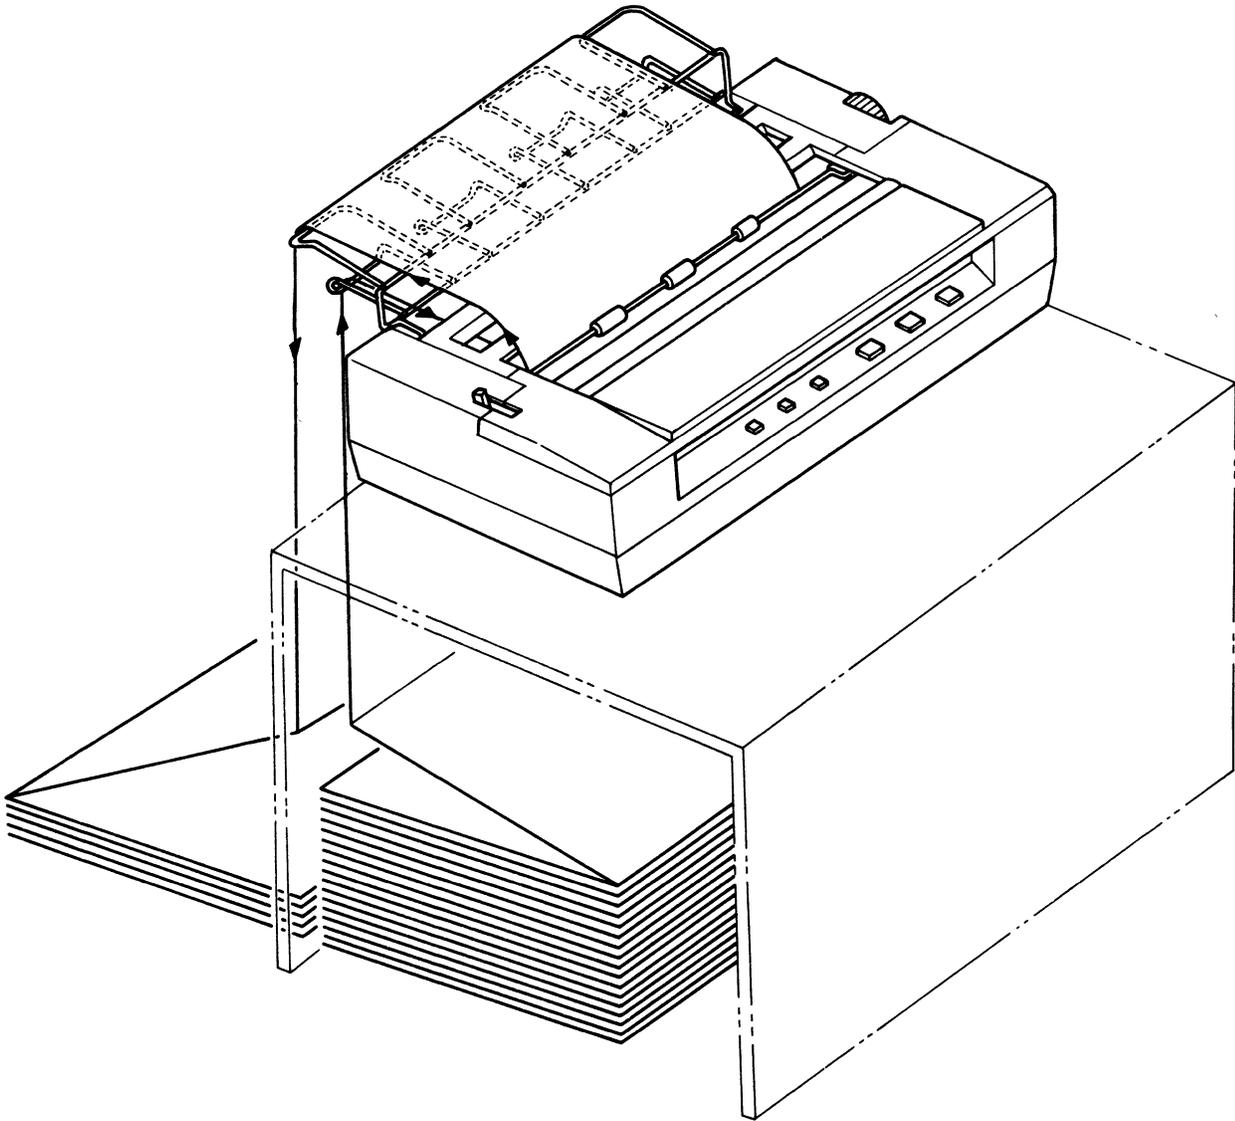

Fig. 12 Example of Paper Guide Separator Application
- (2) Pass the paper through the paper guide separator, and set it in the printer. (See 3 “Paper Setting.”) When the paper end comes on the platen, draw it over the paper guide separator, and drop it from the rear. (See Fig. 12.)